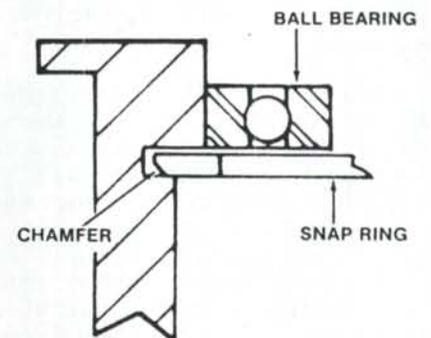
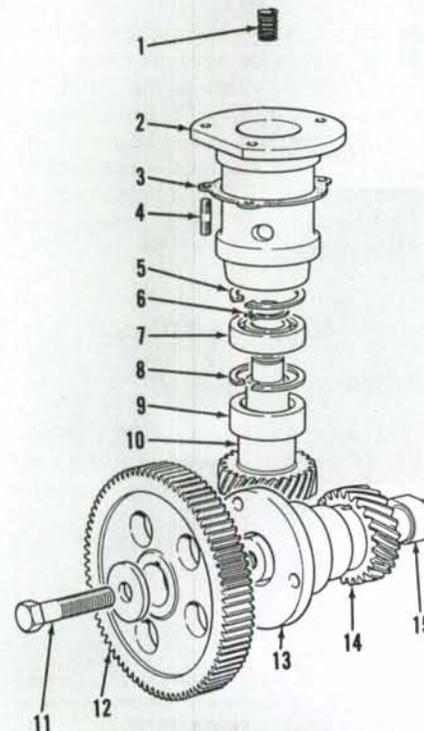
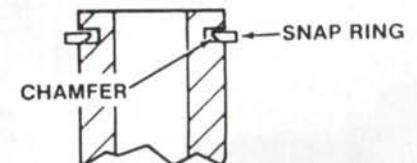

Fig. 111—View showing proper installation of snap ring retaining ball bearing in injection pump drive housing used on three-cylinder engines.
Fig. 110—Exploded view showing three-cylinder diesel fuel injection pump drive assembly and related parts.
Fig. 112—When reinstalling drive gear in injection pump drive housing, install snap ring with chamfered edge downward.
**137. INJECTION PUMP DRIVE GEAR.** To remove drive gear (10—Fig. 110) and housing assembly, first remove injection pump, splined drive shaft and drive shaft thrust spring as outlined in paragraph 136. Lift gear and housing assembly from cylinder block.
To remove drive gear from housing, remove snap ring (6—Fig. 110) from top end of gear (10) and press gear downward out of housing. Remove caged needle roller bearing (9) and snap ring (8) retaining lower bearing. Press bearing (7) out of housing (2).
To reassemble, install bearing (7—Fig. 110) first, then install snap ring (8) with chamfered edge downward. See Fig. 111. Press new needle roller bearing (9—Fig. 110) into position.
Install drive gear (10—Fig. 110) into housing assembly and install snap ring (6) with chamfered edge downward. See Fig. 112.